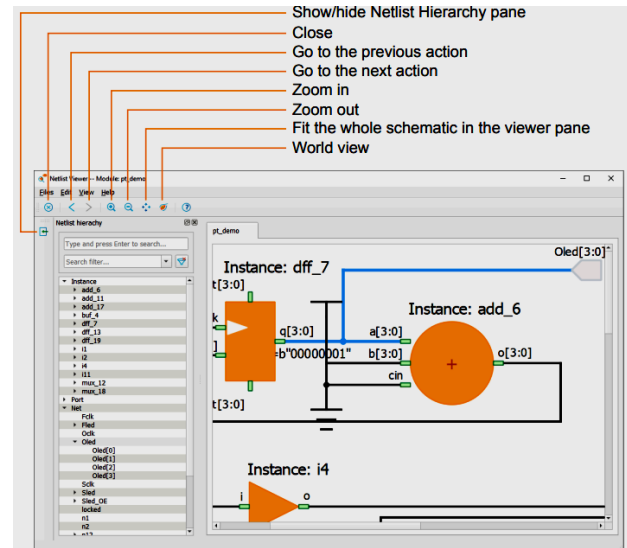

Fig. 6. The Netlist Viewer tool displays and analyzes your design's
5. When finished, *GTKWave* will automatically open to display the waveform (Fig. 6).